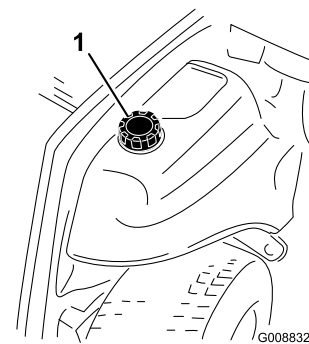

Figure 21
3. Remove cap from the fuel tank (Figure 21).